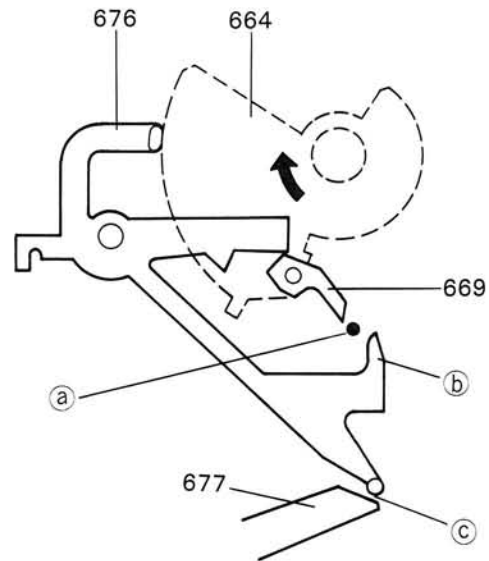

Fig. 1-2
By the hook (669) of the tonearm feed cam (664), the boss (a) on the tonearm feed (658) is pushed to move the tonearm. Without a record on the platter, since (676) and (677) hit against each other at point (c), the hook (669) rotates by the protrusion (b) to come off with the boss (a), in which state the tonearm does not move. (Fig. 1-2)